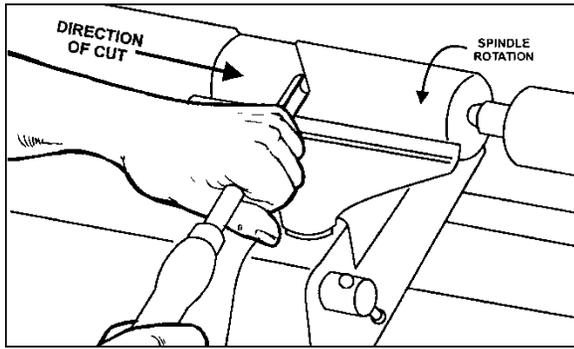

Figure 30
3. Beginning about 2" from the tailstock end of the workpiece, roll the flute (hollowed-out portion) of the tool in the direction of the cut. See Figure 30. Make long sweeping cuts in a continuous motion to rough the piece down to a cylinder.